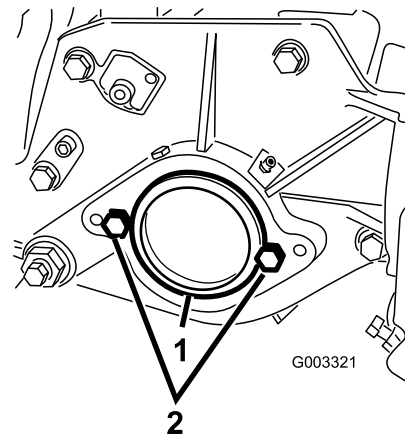

Figure 13
2. On the right end of the cutting unit, remove the plastic plug from the bearing housing (Figure 13).
3. Remove the 2 cap screws from the right side plate (Figure 13).
2. Cap screw (2)
5. Loosely install the 2 reel motor mounting cap screws to the left side plate of the cutting unit (Figure 13).